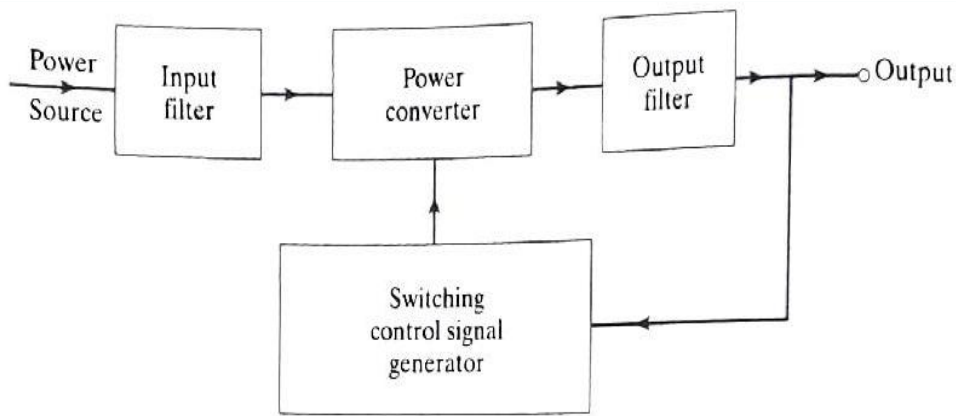

FIGURE 1.11
- Figure 1.11 shows the block diagram of a generalized power converter.
- Displacement Factor (DF).